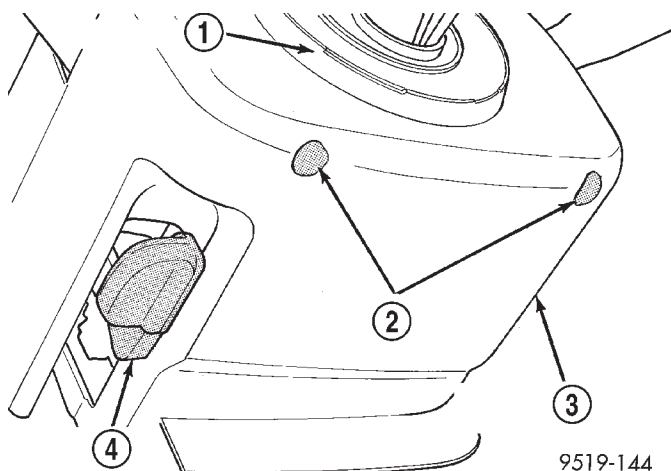
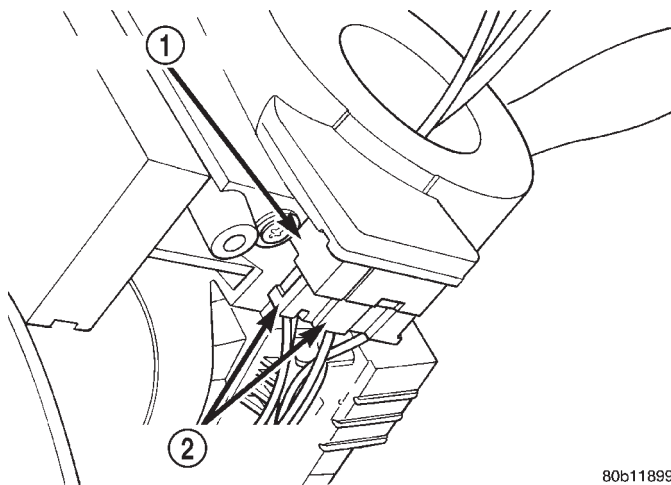

Fig. 17 Steering Column Shroud Attaching Screws
Fig. 18 Wiring Harness Connection To Clock Spring
(20) Remove the steering wheel using the puller.
(21) Remove the 2 screws attaching the upper and lower shrouds to the steering column (Fig. 17). First remove upper shroud from steering column, then release tilt lever and tilt steering column to its highest point. Then remove lower shroud from steering column.
(22) Remove the 2 wiring harness connectors from the clockspring (Fig. 18).
(12) Install clockspring on switch housing. Install the 2 wiring harness connectors on the clockspring (Fig. 18).
(13) Install the trim ring for the key cylinder on the lock cylinder housing.
(14) Install the upper and lower steering column shrouds onto the lock housing of the steering column assembly. Install and securely tighten the 2 upper to lower steering column shroud to lock housing attaching screws (Fig. 17).